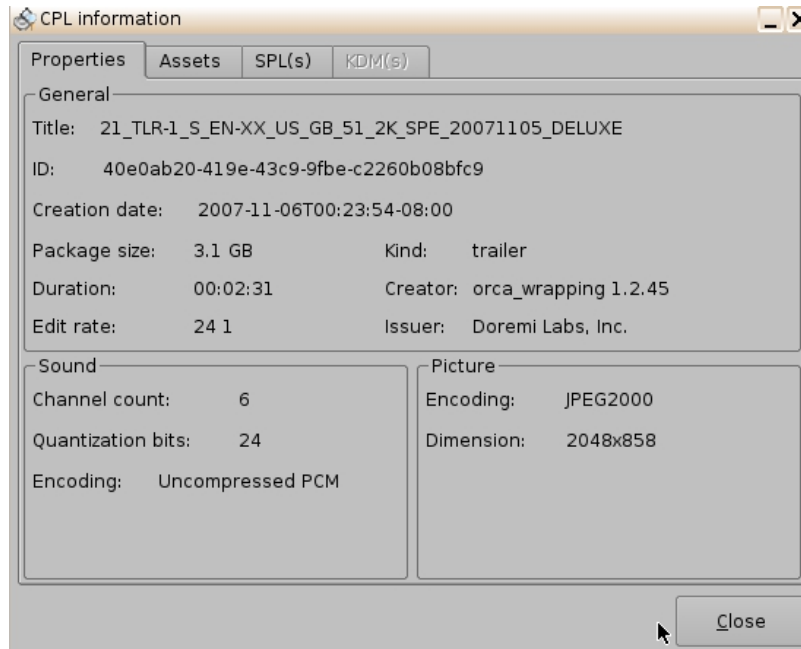

Figure 70: CPL Information Window - Properties Tab
- In this window, the user can select any CPL that is part of the SPL by clicking the Open button. The user will be transferred to the selected CPL Information window (Figure 70).